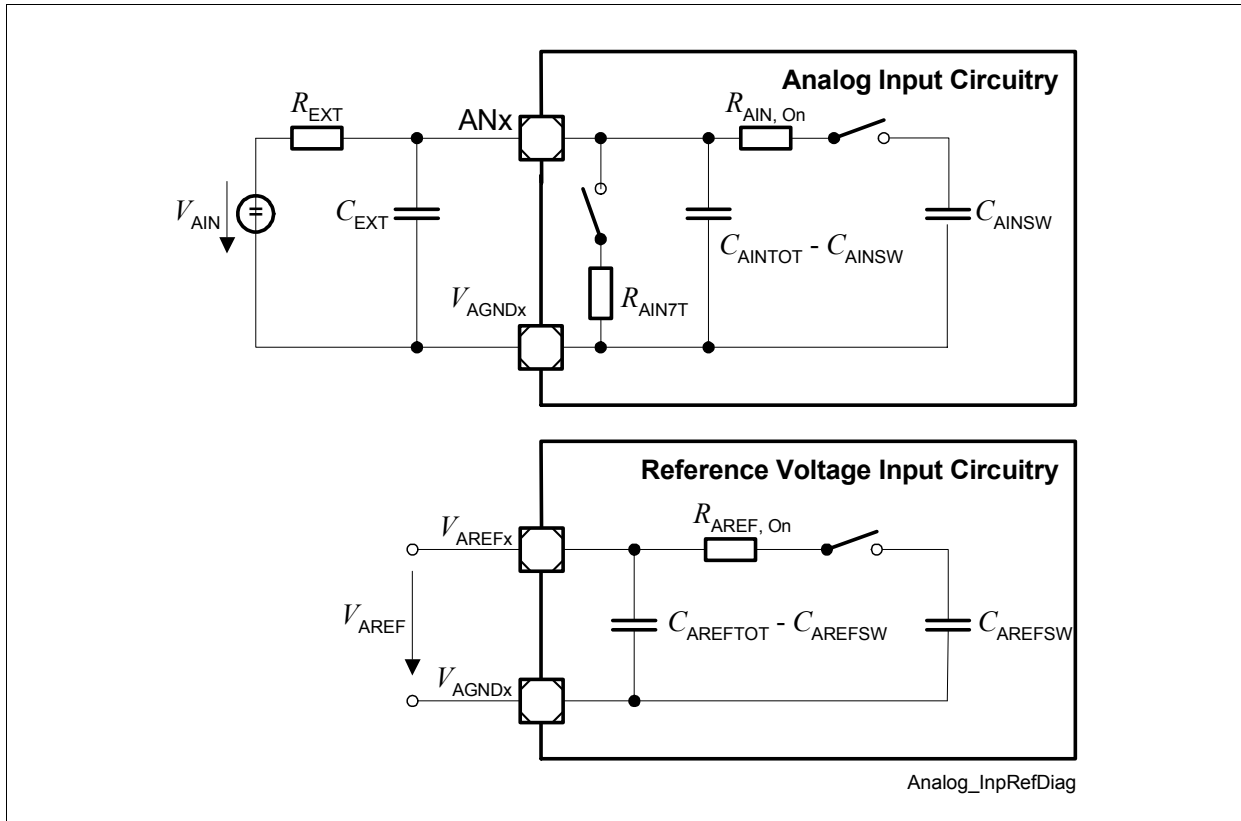

Figure 23 **ADC0/ADC1 Input Circuits**
- 16) For the definition of the parameters see also Figure 23.